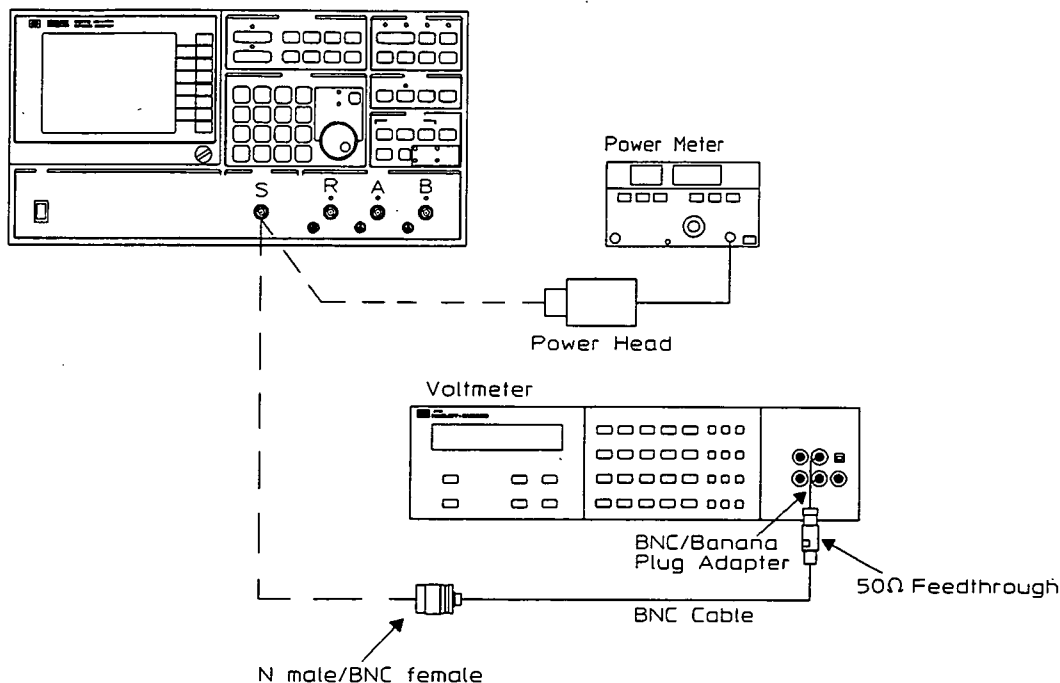

Figure 3-17. Alternate Source Flatness and Absolute Accuracy Test Set-Up
- i. Connect the voltmeter to the HP 3577B source output using a BNC cable, feedthrough termination, and N male to BNC female adapter as shown in figure 3-17.
- n. Connect the HP 8482A power head to the HP 3577B source as shown in figure 3-17.